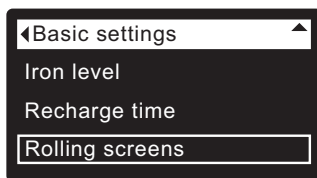

FIG. 55
3. Press the SELECT (O) button to display the Basic settings menu (See Figure 55).
7. To un-select a screen, make sure its name is highlighted in a box. Then press the SELECT (O) button. The black square will disappear. Pressing SELECT (O) again makes the black square reappear and re-selects the highlighted item. At least one screen must be selected/highlighted.
8. When selections are complete, exit this menu by pressing the LEFT (◀) button. The display will go back to the Basic settings menu (Figure 55).